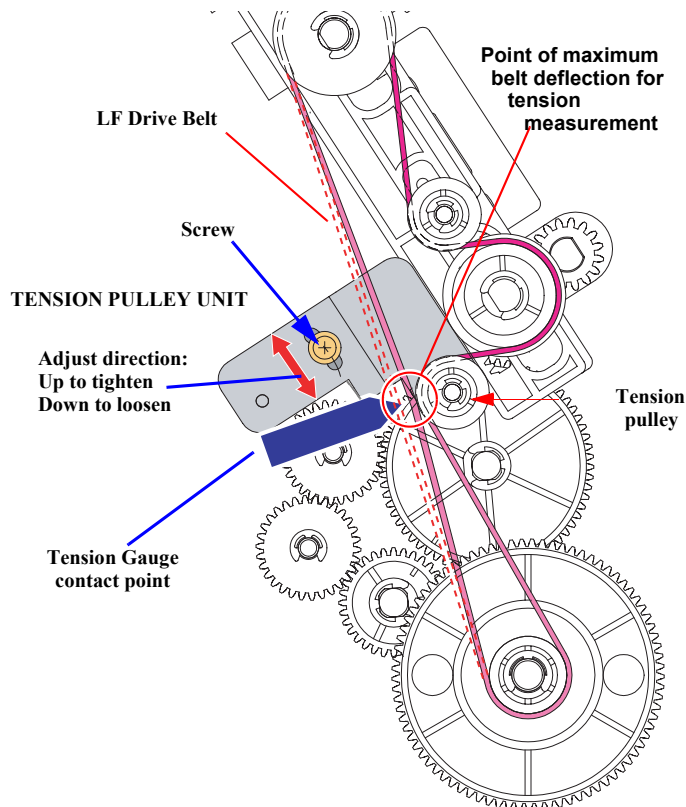

Figure 5-2. LF Drive Belt Tension Adjustment
2. Push the belt with the Tension Gauge at the location and direction shown in Figure 5-2, and verify that the tension level is 400 ± 20 gf when the belt is just touching the tension pulley as shown. If the belt tension is not correct, adjust the tension following the steps below.
3. Slightly loosen the screw securing the TENSION PULLEY UNIT, and move it in the direction of the arrows shown in Figure 5-2 as follows: